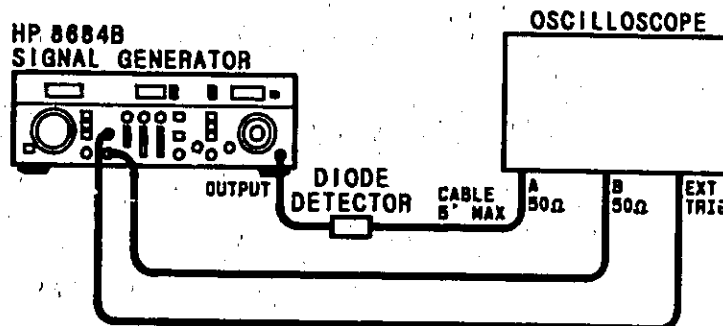

Figure 4-11. RF Pulse Characteristics Test Setup
1. Connect equipment as shown in Figure 4-11.